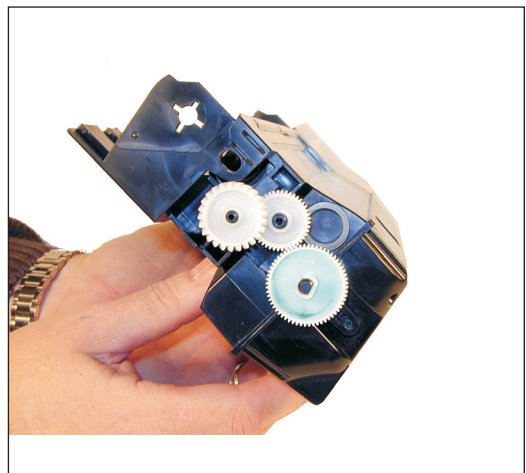

Figure 22
16) Remove the two white gears, the blue gear can stay. (The blue gear has a locking tab that keeps it in place. See Figure 22